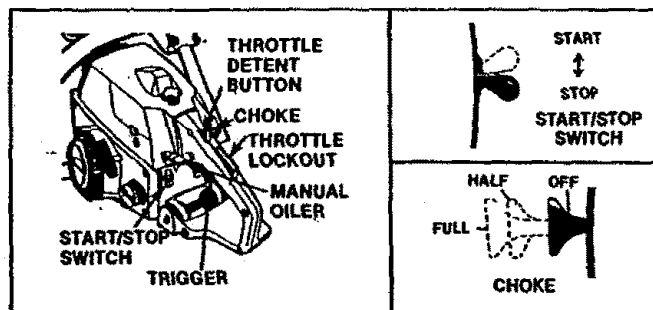

Figure 18
Understanding the control devices on your saw is an important part of learning how to properly and safely operate the unit. Figure 18.
- i. Stop engine by moving the start/stop switch to the "STOP" position. Figure 18.
- 1.) Pull choke to full choke position. Figure 18.
- 3.) Push choke until half position is felt. Figure 18.
- 5.) After 5 second warm up, push choke to the off position. Figure 18.
- 1.) Leave choke at the off position. Figure 18.
- 3.) Push choke to the off position. Figure 18.